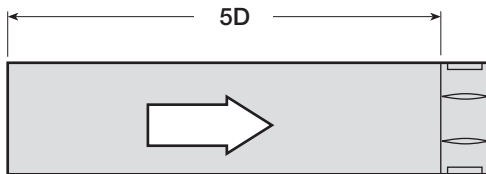
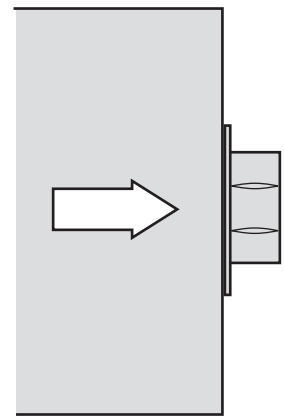

Figure 5.2
Figure 5.5
**Figure 5.2** illustrates a ducted damper exhausting air into an open area. This configuration has a lower pressure drop than Figure 5.5 because entrance losses are minimized by a straight duct run upstream of the damper.
**Figure 5.5** illustrates a plenum-mounted damper. This configuration has the highest pressure drop because of high entrance and exit losses due to the sudden changes of area in the system.
**AMCA Figure 5.2 Pressure Drop**
**AMCA Figure 5.5 Pressure Drop**